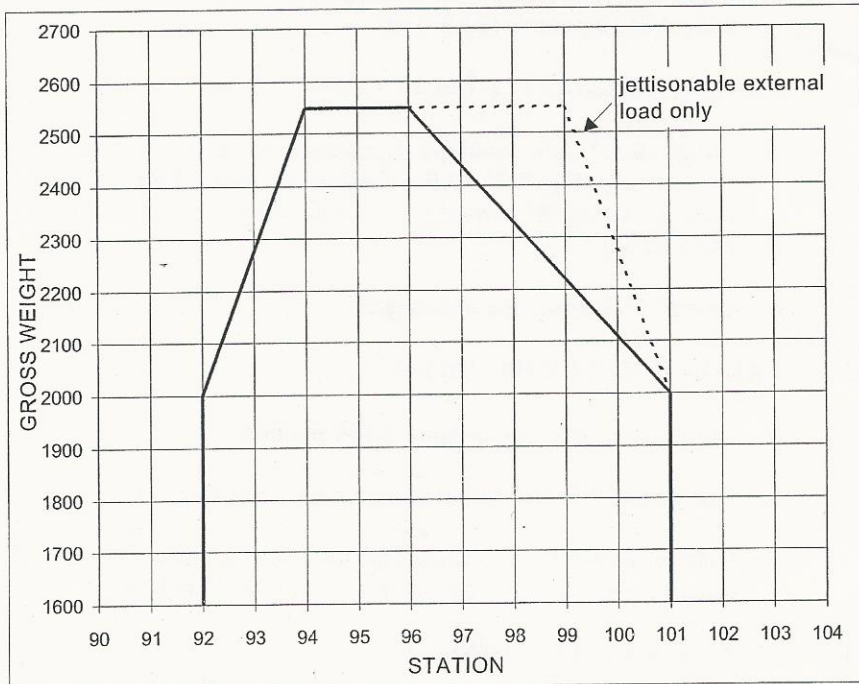

Figure 2-1. Longitudinal Center of Gravity Limits
- a. Longitudinal C.G. envelope is expanded for external load operation only (Fig. 2-1). After the load is released the aircraft must be within the normal category envelope (Fig. 2-2 of the basic RFM).